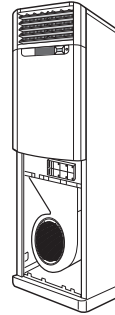

Fig 2
- 3 Keep in mind that the bending part should not be cracked and make the radius (R) as long as possible (Refer to Fig. 2)
(Fig. 2)
Detail of Fig 2